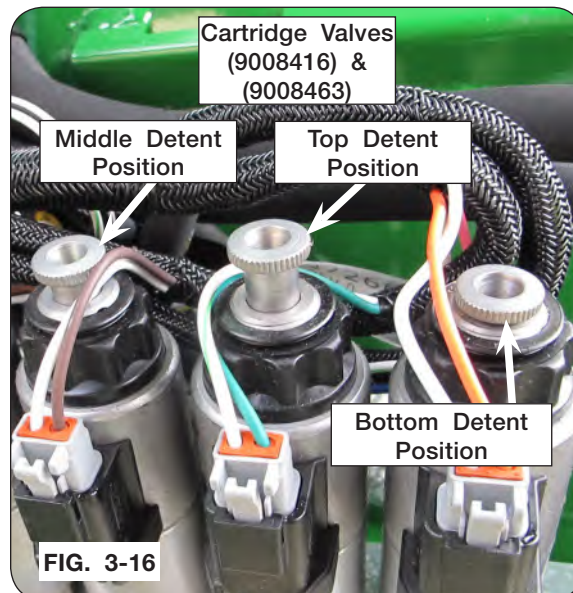

FIG. 3-16
**NOTE:** Only one cartridge valve (9008416 & 9008463) must be in the top or bottom detent position at a time to function properly. All other valves must be in the middle detent position. (FIG 3-16 & 3-17)
5. Operate the desired function on valve (9008416 & 9008463) by rotating the manual override knurled knob from the locked neutral position. (FIG. 3-16 & 3-17)
8. Return knurled knob to center and lock valve (9008416) & (9008463) in position. (FIG. 3-16 & 3-17)